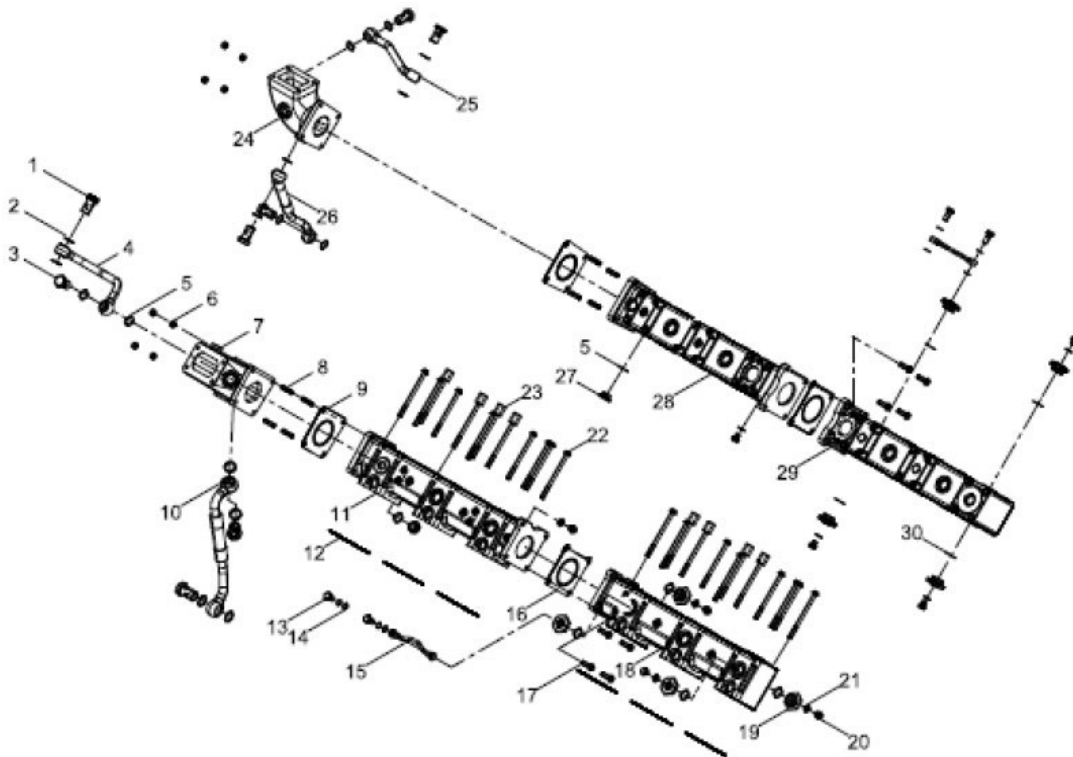

Figure 51. Exhaust Manifold Assembly
- Banjo Bolts (Figure 51, Item 1) should be torqued to 52±5 ft/lb.